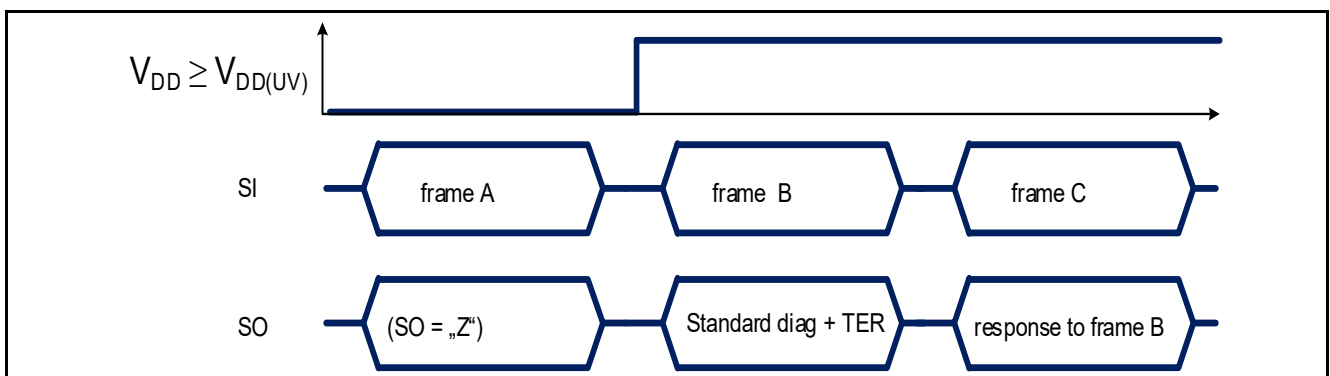

Figure 36 TLD5501-2QV response after coming out of Power-On reset at V_{DD}
- when TLD5501-2QV logic supply comes out of an Undervoltage reset condition ($V_{\text{DD}} < V_{\text{DD(UV)}}$) as shown in **Figure 36** or $V_{\text{EN/INUVLO}} < V_{\text{EN/INUVLOth}}$)